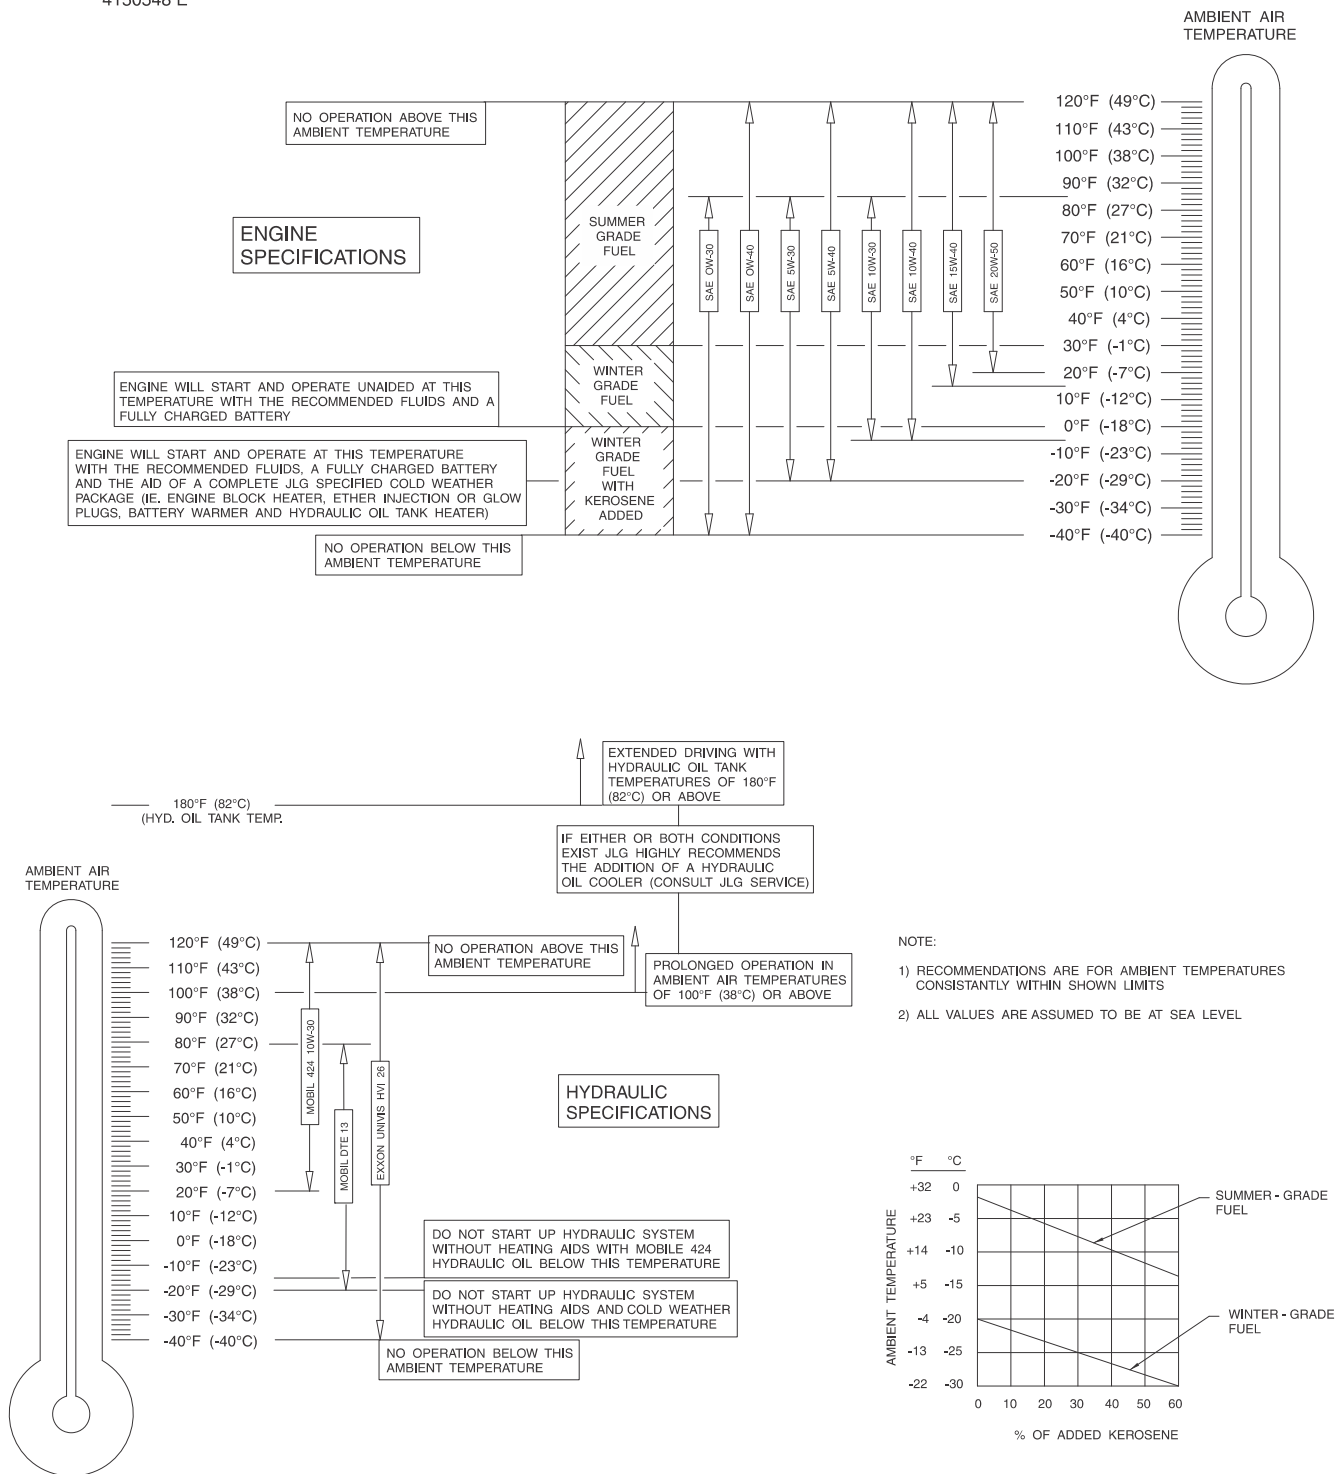

Figure 1-3. Engine Operating Temperature Specifications - Deutz
- Lube - EO - Spec: API CJ-4/CG-4 class, ACEA E3-90/E5-02, for Oil Viscosity Ref. Figure 1-3. on page 1-6 - Operating Temperature Range Chart
- Lube - EO - Spec: API CJ-4 class, for Viscosity Ref. Figure 1-3. on page 1-6 - Operating Temperature Range Chart